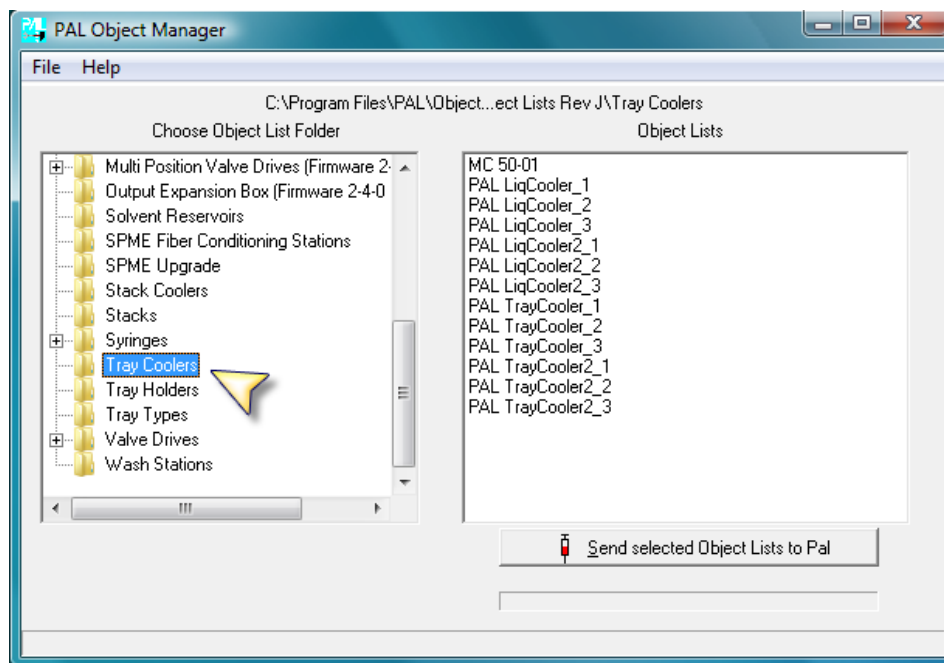
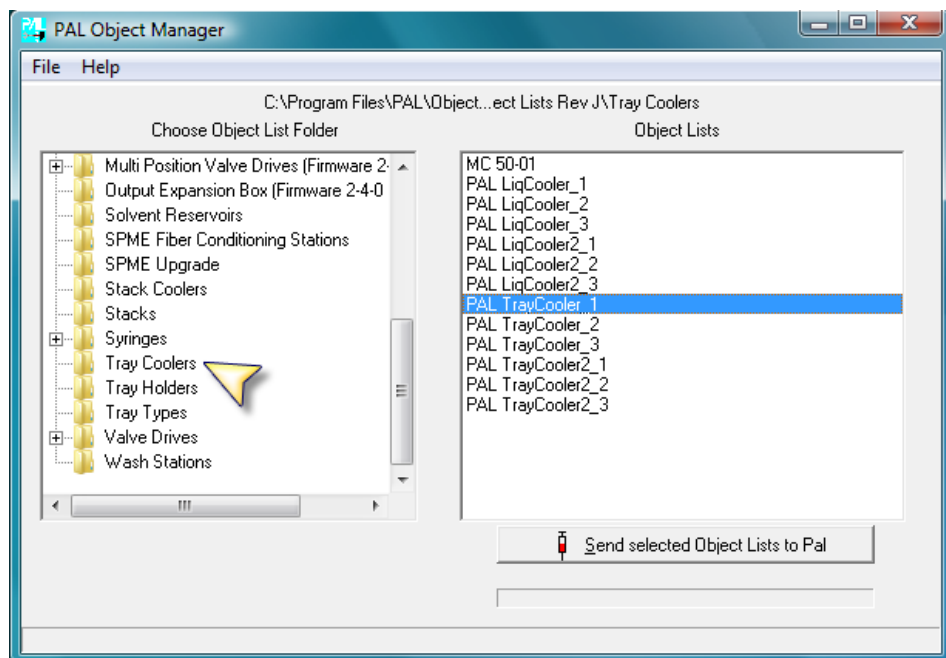

Figure 16 PAL Object Manager Choose Object List Folder for Tray Cooler
Figure 17 PAL Object Manager PAL Tray Cooler Object List
See Figure 16 on page 46 and Figure 17 on page 47 as examples.
- 2 Select the Object Lists **PAL_StkCooler_1**. (See Figure 17 on page 47.)